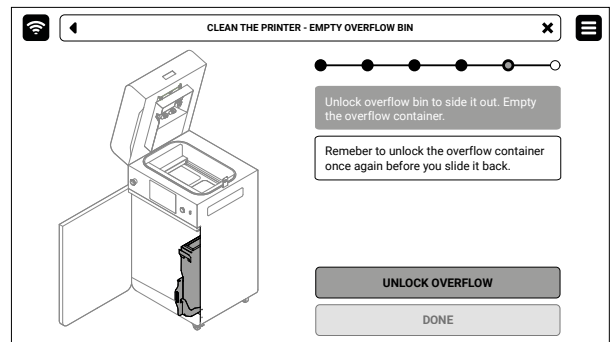

Fig. 9.5 Remember! Unlock Overflow container on the screen before sliding it out.
2. Press the **UNLOCK OVERFLOW** button to release the electrolock (fig. 9.5).